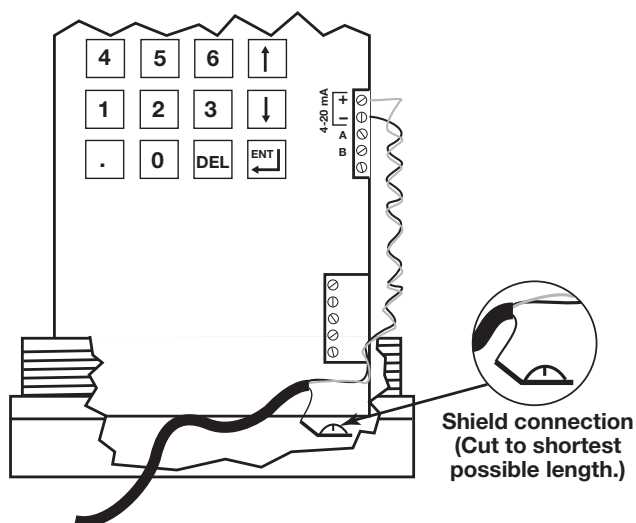

Figure 7
2. Cut the shield wire down just short enough to crimp a female disconnect (Sta-Kon[®]) connector. Crimp the connector on and push this over the male connector located at the base of the housing as shown in Figure 7.
3. The + and – wires should then be twisted together and run up to the 4–20 mA terminal block located to the right of the 16-button keypad as shown in Figure 7.
2. Cut the shield wire down just short enough to crimp a female disconnect (Sta-Kon®) connector. Crimp the connector on and push this over the male connector located at the base of the housing as shown in Figure 7.
3. The “A” and “B” wires should then be twisted together and run up to the RS-485 terminal block located to the right of the 16-button keypad as shown in Figure 7.